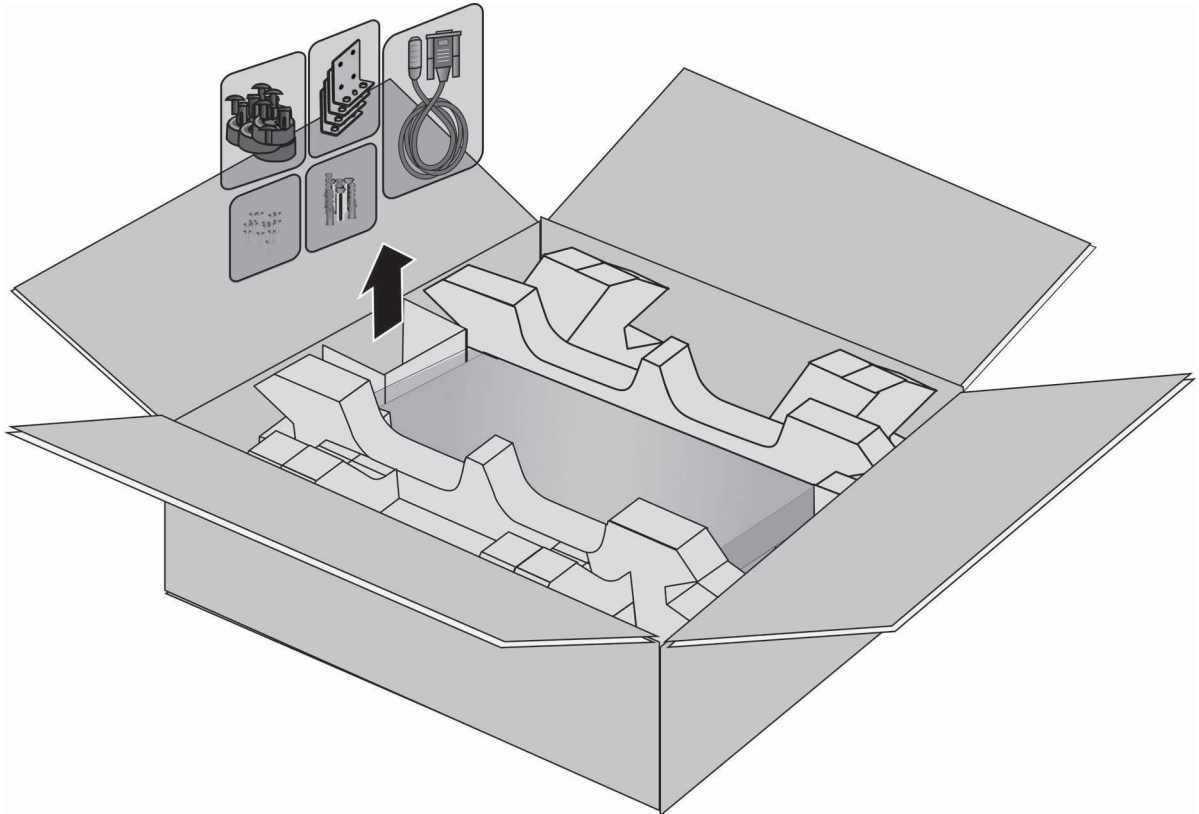

Figure 30. Removing Accessories
1. Remove the accessories and documents from the accessory box partition. Refer to Figure 30.